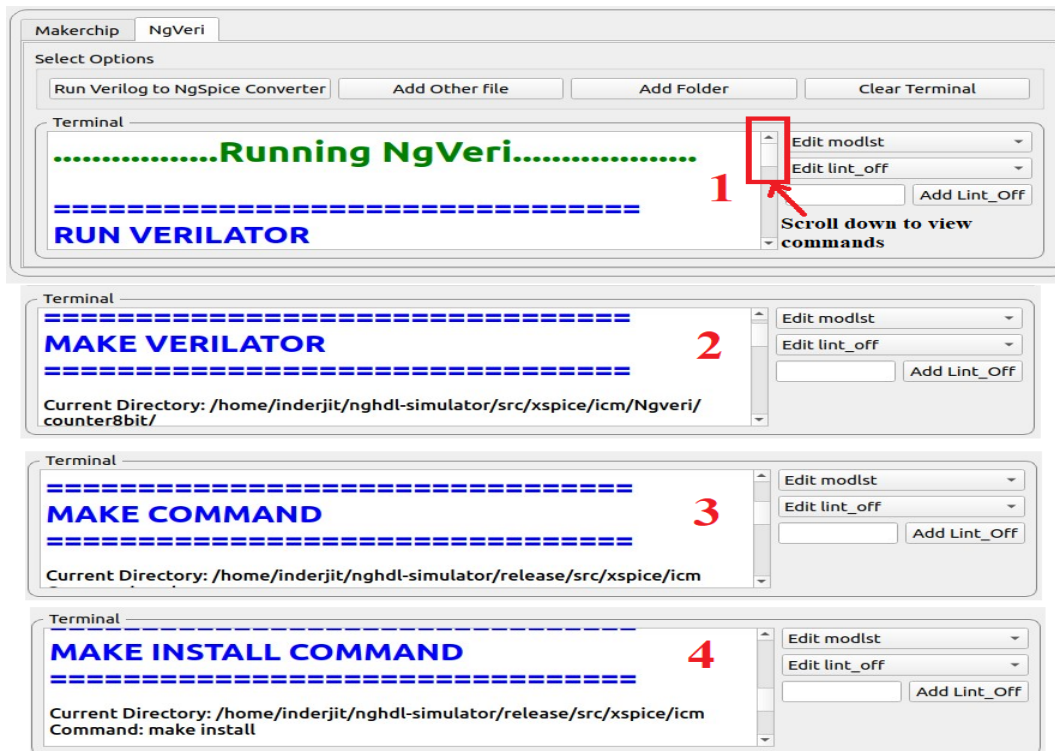

Figure 11.23: Commands in NgVeri
3. First command after clicking **Run Verilog to Ngspice Converter** button in NgVeri terminal is **RUN VERILATOR** highlighted as 1 in red color in Fig. 11.23.